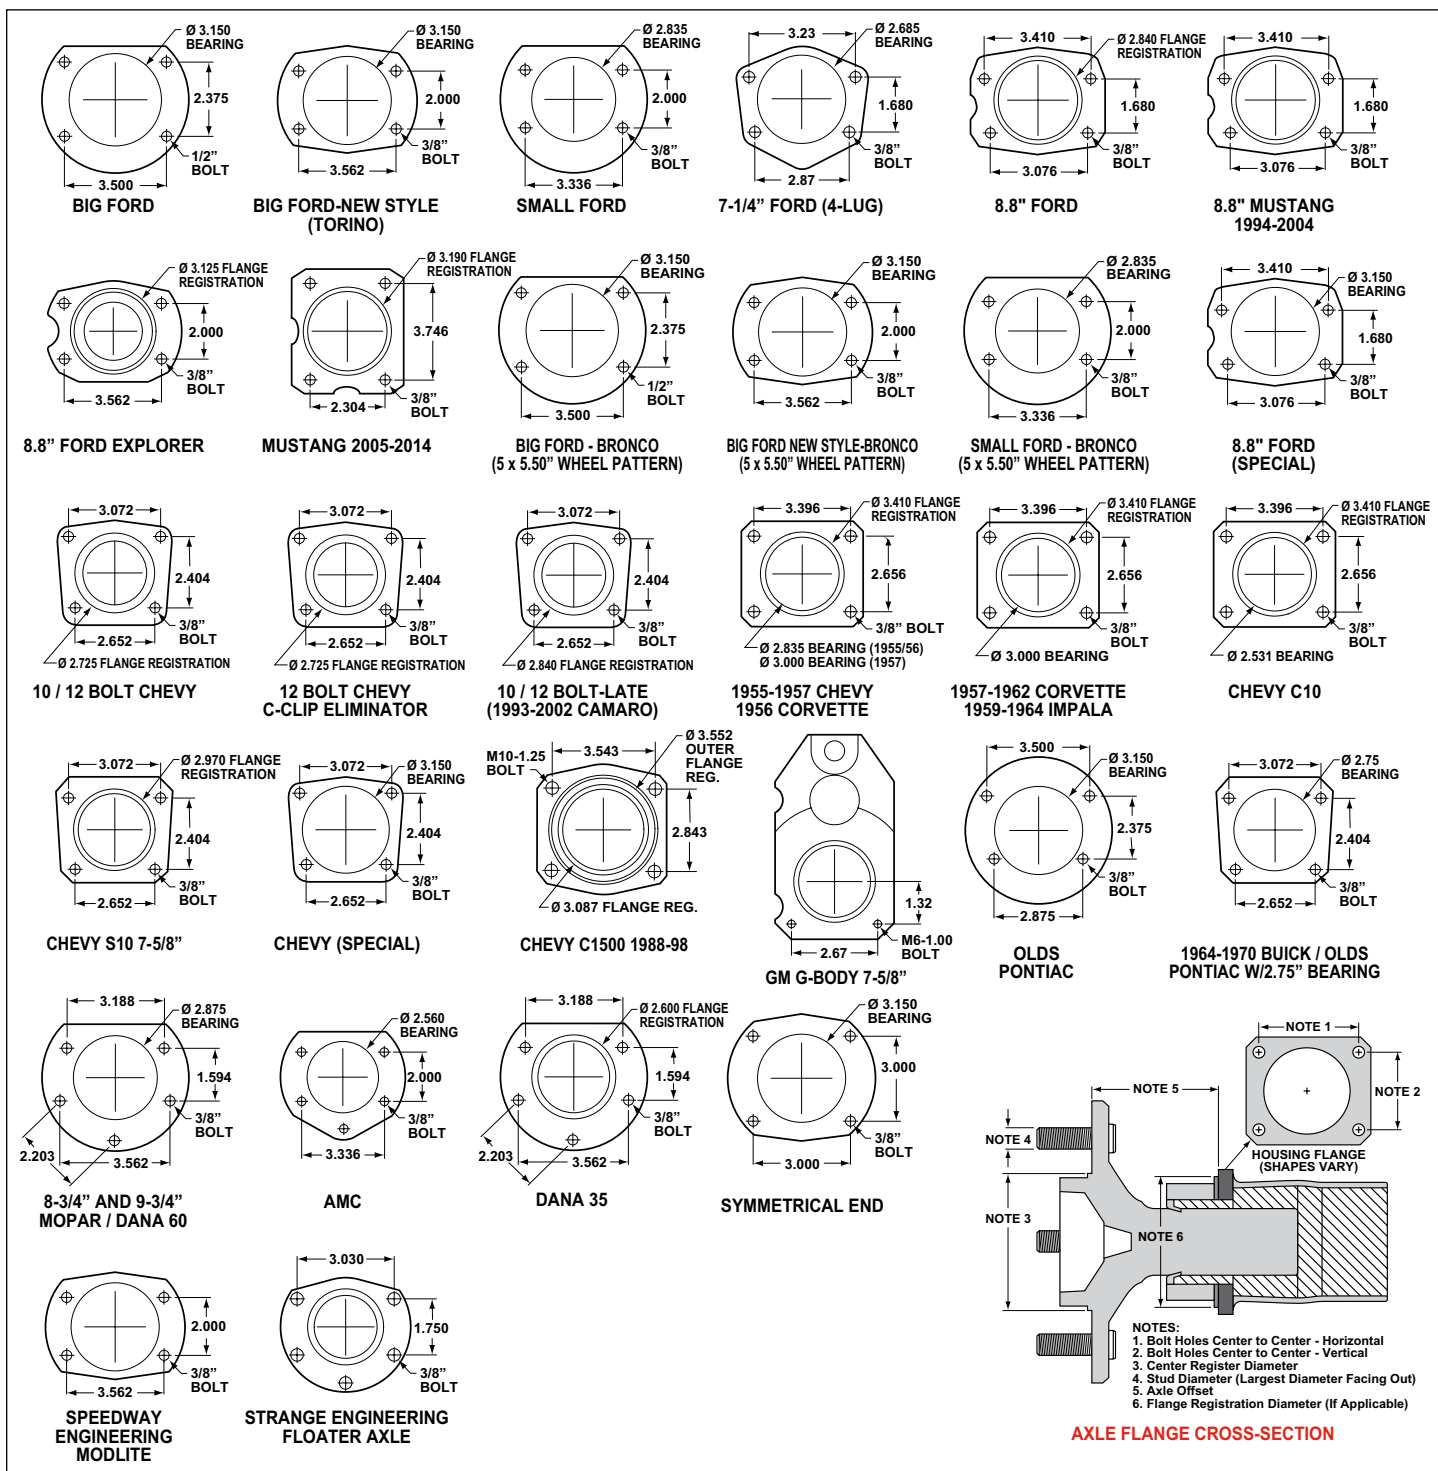

Figure 8. Rear Housing Flange Chart and Axle Flange / Offset Cross-Section
Make sure this is the correct kit to fit the axle housing flange, not necessarily the rear end make. Many times after market manufacturers put a different make of axle housing flange on the stock rear end housing (see Figure 8). Example; Big Ford rear ends with Olds-Pontiac flanges, therefore, an Olds-Pontiac rear disc brake kit would be the correct kit to order.
- Dimension from wheel side of axle flange to wheel side of axle housing flange (see Figure 8, lower right hand corner). This dimension is critical to ensure proper alignment of the rotor to the caliper, and should match offset given in the kit description.